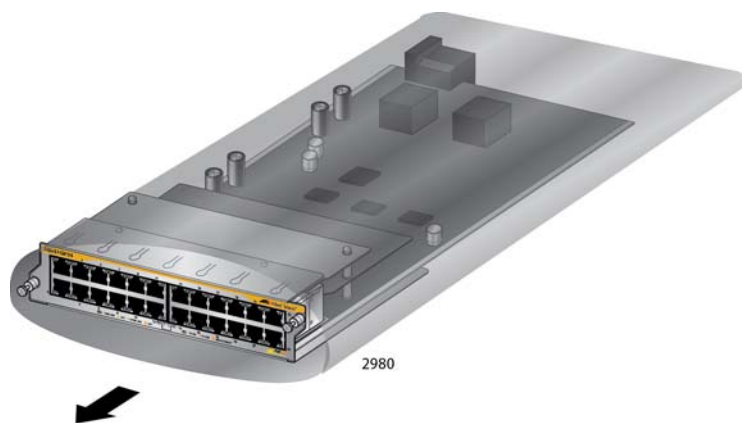

Figure 87. Removing an Ethernet Line Card from the Anti-static Bag
- Carefully remove the Ethernet line card from the anti-static bag. Refer to Figure 87.